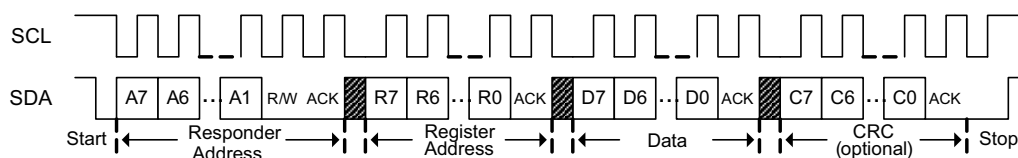

图 14-1. I²C Write
**Figure 14-1** shows an I²C write transaction. Block writes are allowed by sending additional data bytes before the Stop. The I²C logic will auto-increment the register address after each data byte.